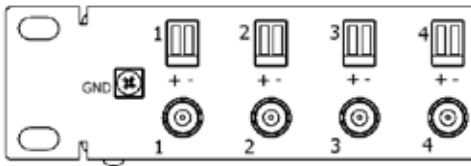

Figure 3.
5. Connect UTP cable to corresponding IDC snap terminal. Connect wires to equivalent "+" and "-" terminals. This unit is polarity sensitive. UTP wires do not need to be stripped before installation (See Figure 3).